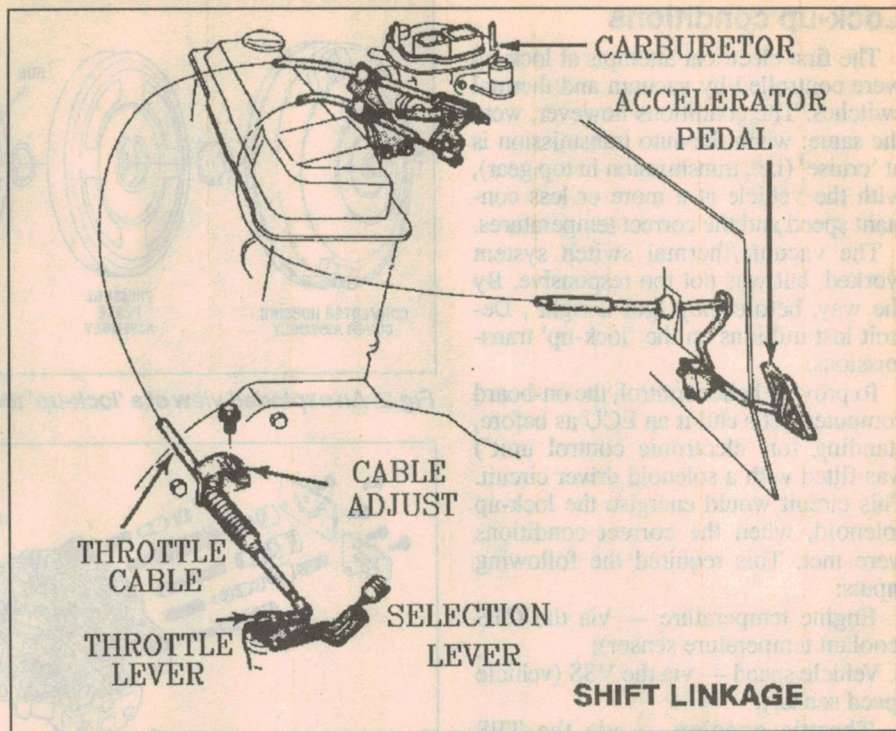

Fig.5: With the 'TV' or throttle valve system of torque converter clutch control (TCC), information on engine loading is sent by a mechanical throttle linkage.
**2. TV (throttle valve) CONTROL:** This is a *mechanical* monitor of engine load. It may take the form of a rod or a cable (Fig.5), one end of which is attached to the transmission. The other is simply attached to the carburettor or throttle body arm.